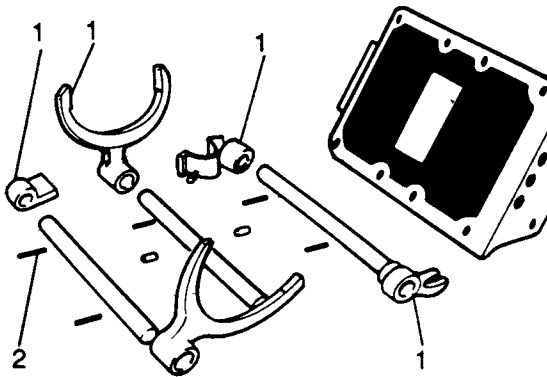

Fig H1.122
- (1) Refer to Fig H1.122. Inspect to see that there is no excessive wear in the fork grooves, as well as the contact ends for the gears (1).
- (2) Inspect the selector shafts and their housings in the cover. The spring pins (2) must be fitted new as well as any part which is excessively worn.